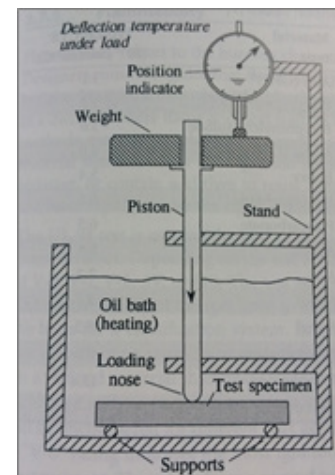

Figure 3: HDT Apparatus
3. **Heat Deflection/Distortion Temperature (HDT)**—Temperature at which a material will deflect under load (Figure 3)